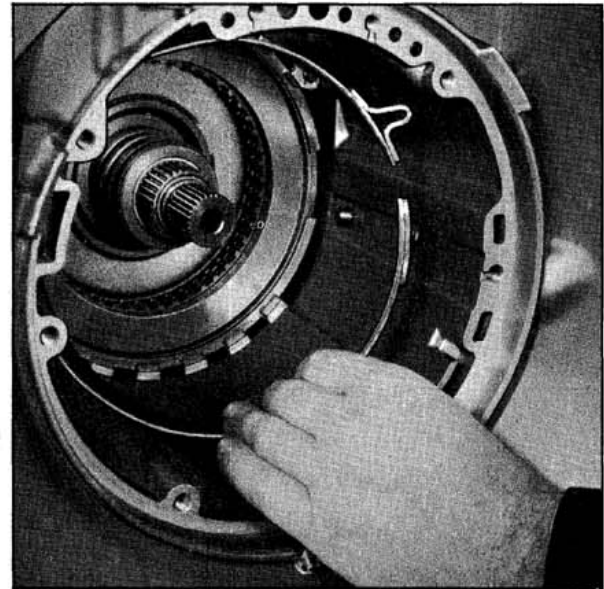

Fig. 6-67 Removing Front Band
8. Remove the front band assembly. (Fig. 6-67)